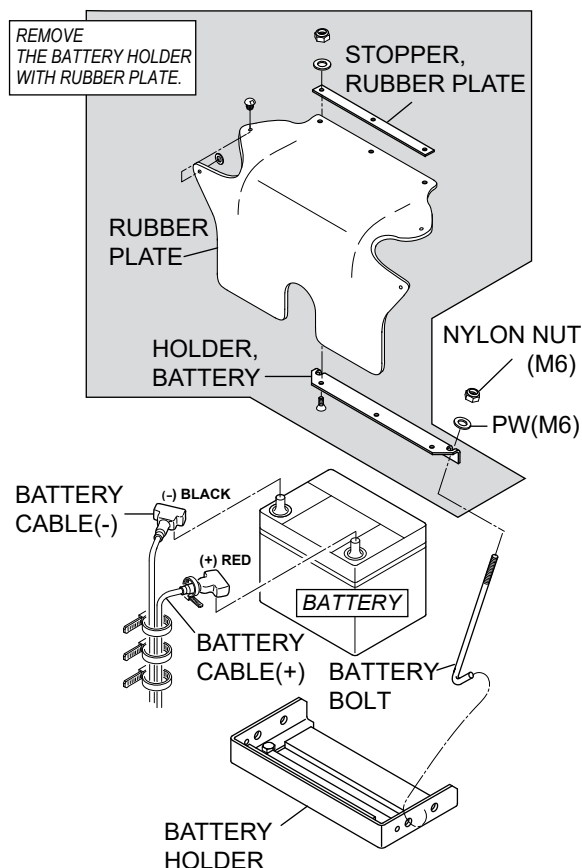

Figure 37. Battery Removal
7. Loosen the nylon nut (M6) and remove the battery holder from the battery. See Figure 37.